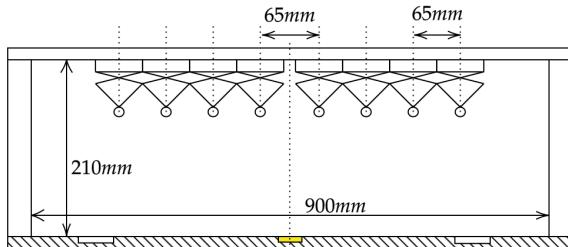

Figure 4.4. 2D sketch of a high voltage pole.
- Insulators need to be mounted **210mm** above tiles (Figure 4.4) for optimal pressure between current collector and charging rails
Assemble the wooden structure as in Figure 4.2. This part may differ from our reference part. The important and necessary specifications are: (i) the structure must be larger than one tile such that a road (with margins on both sides) may fit underneath and (ii) the space between the tile and the bottom part of the crossbar must be exactly 21cm (see Figure 4.4).
Drill 3mm holes such that the insulators will be centered after mounting, seen in Figure 4.4